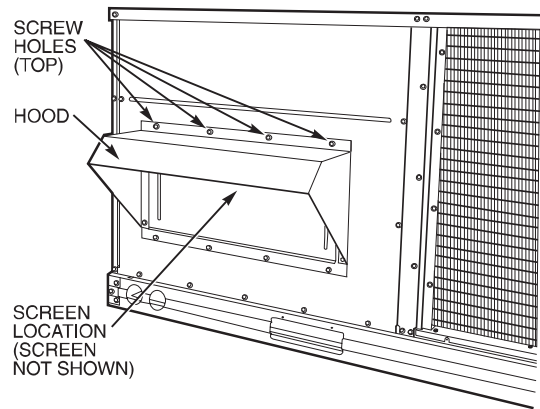
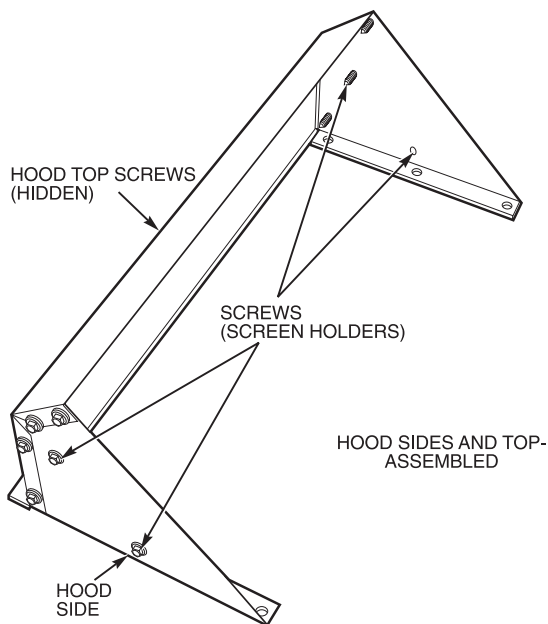

Fig. 14 — Outdoor-Air Damper with Hood Attached
Fig. 13 — Outdoor-Air Hood Details
5. Place hood on front of outdoor air opening panel. See Fig. 13 for hood details. Secure top of hood with the 4 screws removed in Step 3. See Fig. 14.
7. Align screw holes on hood with screw holes on side of manual outdoor-air damper. See Fig. 13 and 14. Secure hood with 6 screws from Step 6.
9. Remove and save screws currently on sides of hood. Insert screen. Secure screen to hood using the screws. See Fig. 14.